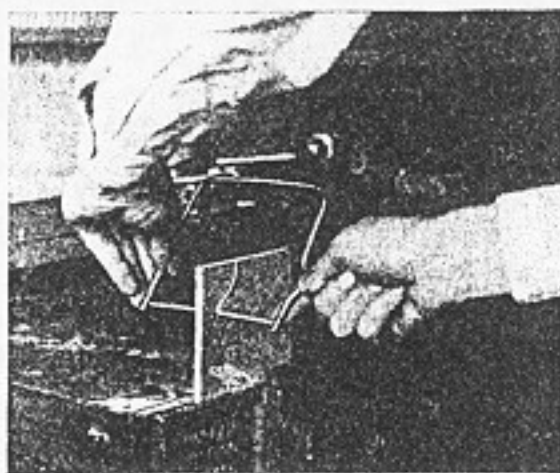

Fig. 76. Sawing with a coping saw, work held in a bench vise.
1. The coping saw is used on thin stock for both outside and inside curves. If the work is clamped in a bench vise, the coping saw is held horizontally like a turning saw with the teeth pointing away from the handle (Fig. 76).